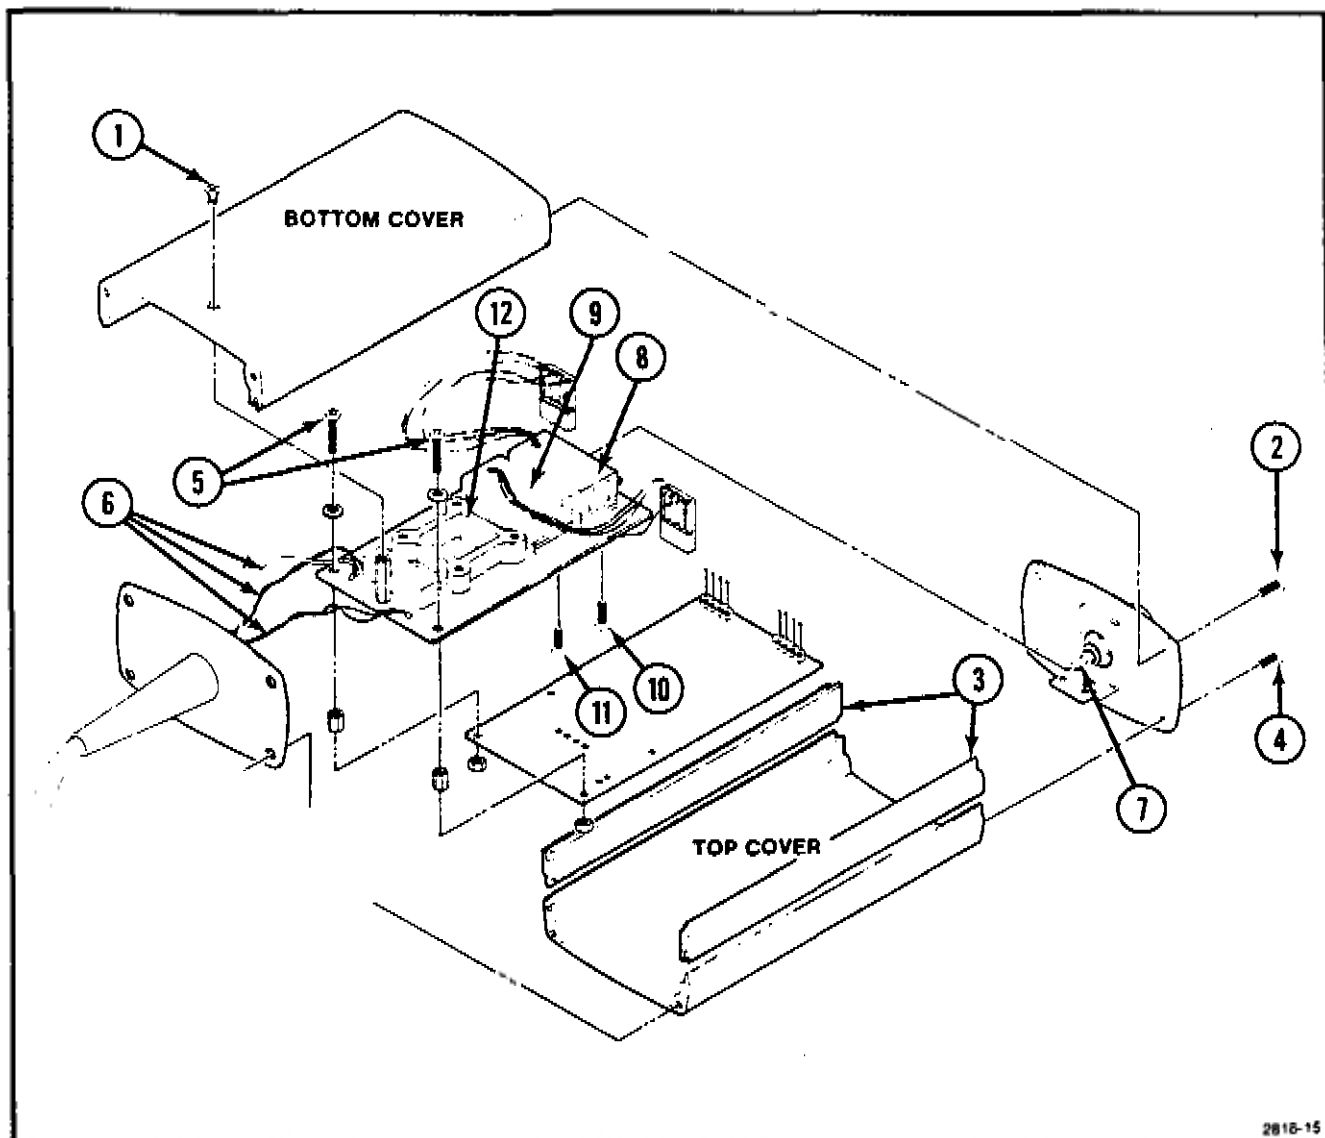

Fig. 5-1. Maintenance diagram (exploded view).
Refer to Fig. 5-1 for the following procedures:
The Hypcon Connector and hybrid IC (see Fig. 5-1, ⑫) should be removed if it is necessary to use a cleaning solvent near (1/2") the connector.
**Board Removal and Replacement (See Fig. 5-1).**
a. Remove the two screws ⑤ securing the Fast Edge board to the Fast Edge Driver board.
a. After board removal, carefully unsolder the cable connections ⑥ and remove the cable.
**Log Cell Removal and Replacement (Refer to Fig. 5-1)**
a. Loosen two screws securing clamp ⑦. Slide clamp forward to expose coaxial center conductor.
c. Note the log cell ⑧ wires lead dress to the board (essential for proper high frequency operation of the unit).
e. Disconnect log cell vector. Unscrew four Fast Edge board screws ⑩ securing the log cell to board.
b. Replace the four Fast Edge board screws ⑩.